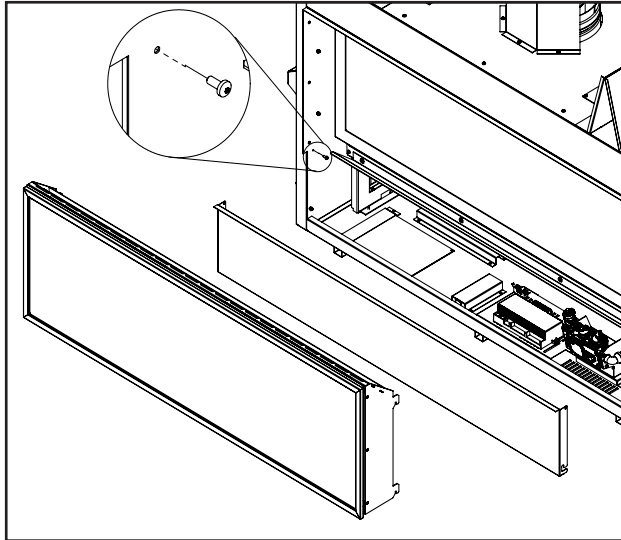

Figure 11. Front Cover Removal
Step 1: Prior to installation of the fireplace, remove the safety screen assembly. Next, remove the front cover using a T20 screwdriver (see Figure 11).